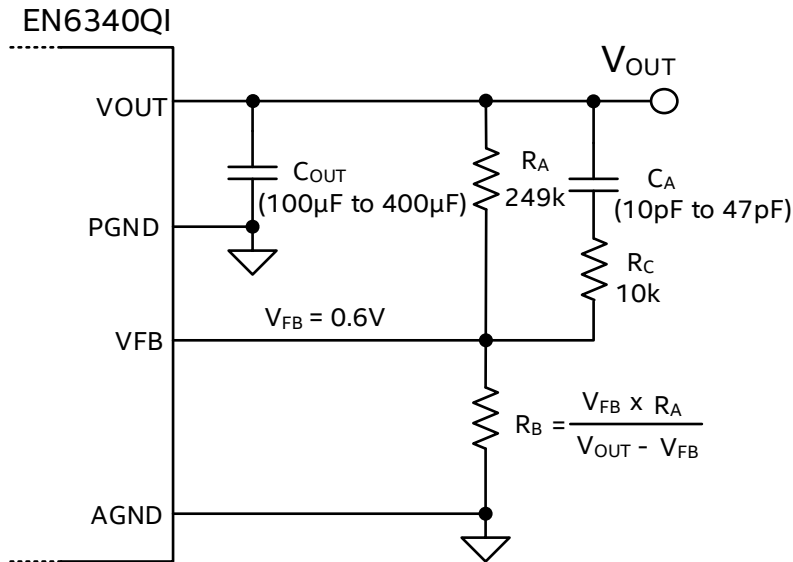

Figure 5: VOUT Resistor Divider & Compensation Capacitor
The EN6340QI output voltage is programmed using a simple resistor divider network ( $R_A$  and  $R_B$ ). Figure 5 shows the resistor divider configuration.
The recommended RA resistor value is 249kΩ and the feedback voltage is typically 0.6V. Depending on the output voltage (VOUT), the RB resistor value may be calculated as shown in Figure 5. Since the accuracy of the output voltage setting is dependent upon the feedback voltage and the external resistors, 1% or better resistors are recommended. The external compensation capacitor (CA) and resistor (RC) is also required in parallel with RA. Depending on input and output voltage, the recommended external compensation values are shown in Table 1.